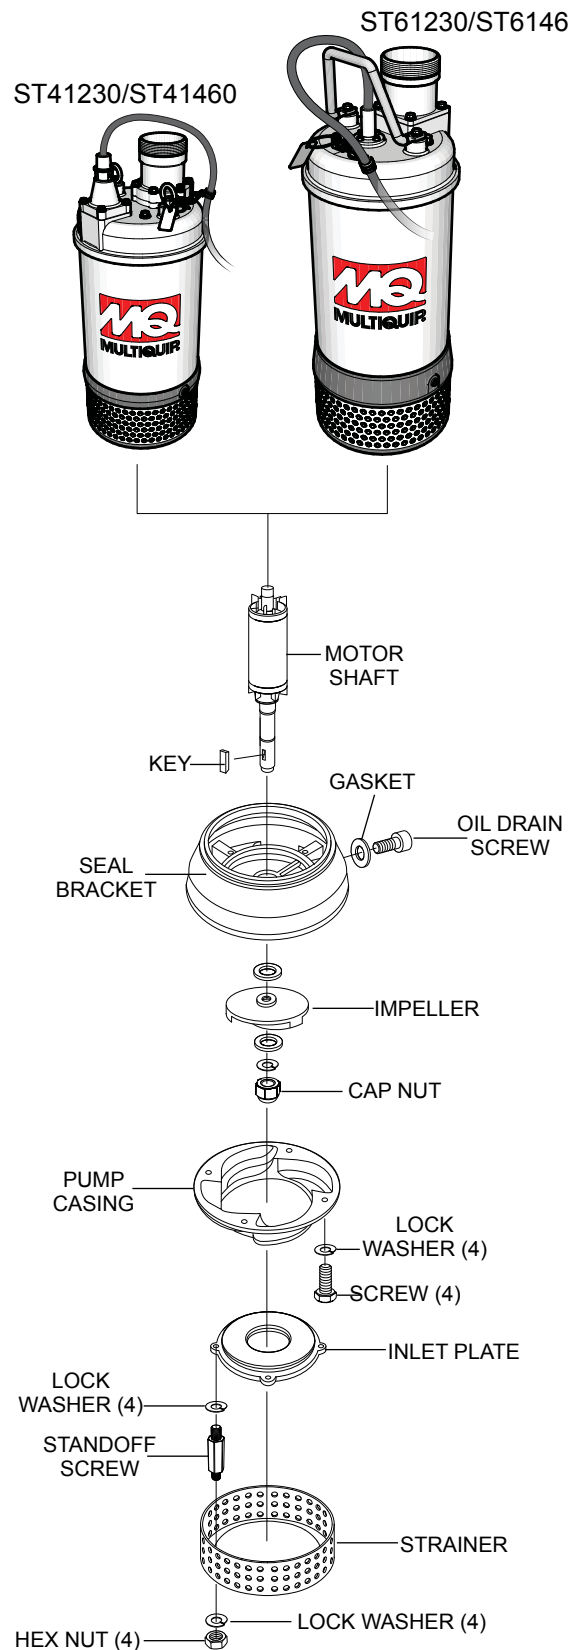

Figure 18. Impeller Removal
Refer to the the following procedure and Figure 18 for the removal of the impeller.
1. Remove oil screw and gasket from the oil fill chamber port. Drain oil from oil chamber as referenced in Figure 18.